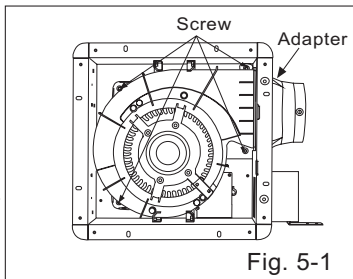

Fig. 5-1
1. Loosen 4 screws (but do not remove them from blower).(Fig.5-1)
- (1) Loosen 4 screws (but do not remove them from blower) as shown in Fig.5-1.